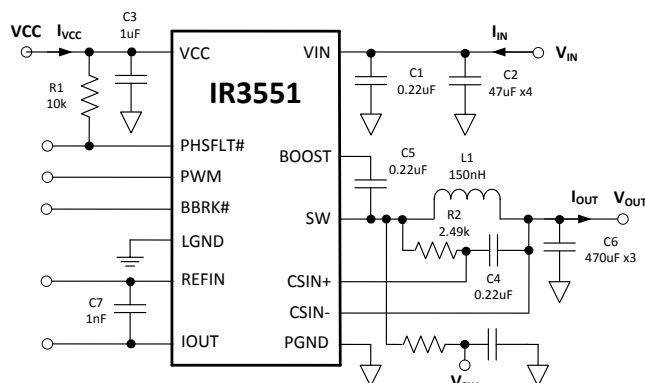

Figure 32: IR3551 Power Loss Measurement
Circuit of Figure 32,  $V_{IN}=12V$ ,  $V_{OUT}=1.2V$ ,  $f_{SW} = 400kHz$ ,  $L=150nH$  (0.29mΩ),  $V_{CC}=7V$ ,  $T_{AMBIENT} = 25^{\circ}C$ , no heat sink, no air flow, 8-layer PCB board of 3.7" (L) x 2.6" (W), no PWM controller loss, no inductor loss, unless specified otherwise.
The single-phase IR3551 efficiency and power loss measurement circuit is shown in Figure 32.